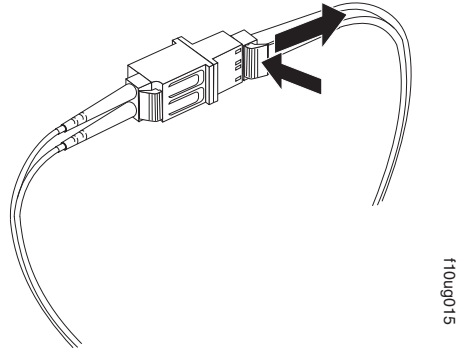

Figure 48. Removing the LC-LC fibre-channel cable from an LC-SC fibre-channel cable adapter
2. Carefully pull on the connector to remove it. Make sure you grasp the connector and not the cable when removing the LC-LC cable from the LC-SC cable adapter as shown in Figure 48 on page 58.